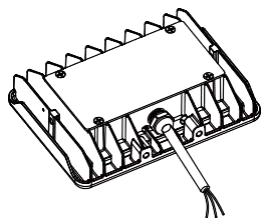

figure 3.1
Step 1: Take the lamp out of package;(figure 3.1)